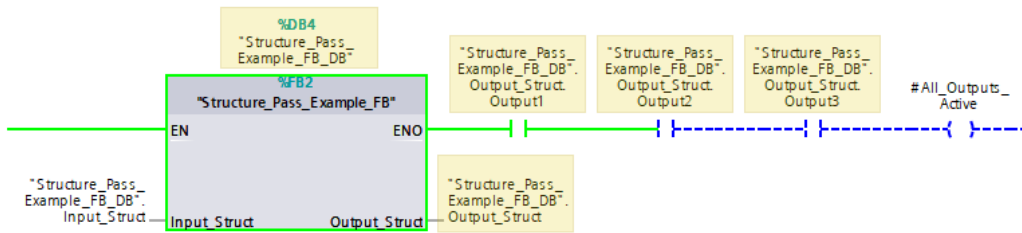

Figure 3.15 – Example of a struct being passed as an output and utilized in further logic
*Figure 3.15* is an example of a function block passing output data to its own instance, which is then referenced directly in further logic.